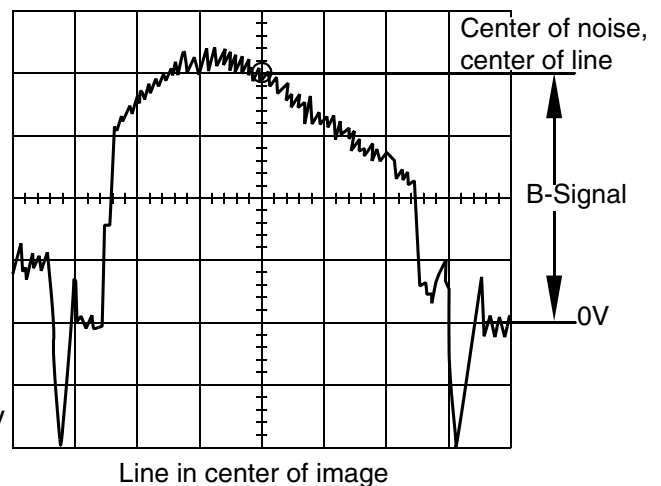

Fig. 2
- Measure the B signal of one line in the center of the image (60 Hz N line 128, 50 Hz N line 156) for all I.I. formats (refer to Fig. 2) and record the results.